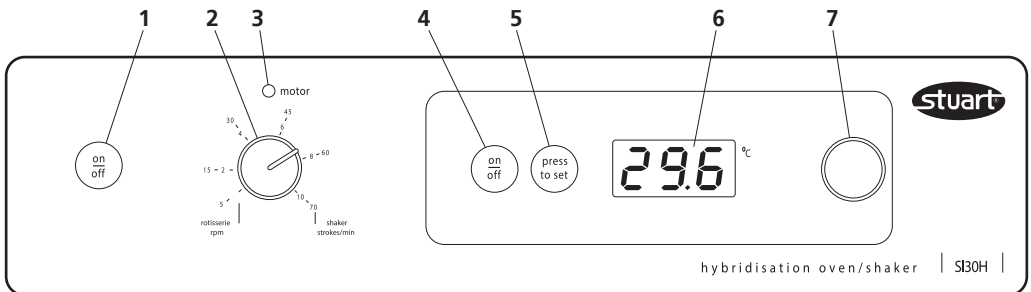

Figure 3: Front panel controls
- 3.1 The incubator temperature controls are located on the right hand side of the control panel (number 4 to 7 in figure 3).
- 5.6 The speed controls are on the left hand side of the control panel (numbers 1 to 3 in figure 3). Turn the rotisserie / shaker ON by pressing the on / off button (1). The red indicator light (3) above the speed selector dial (2) will illuminate.